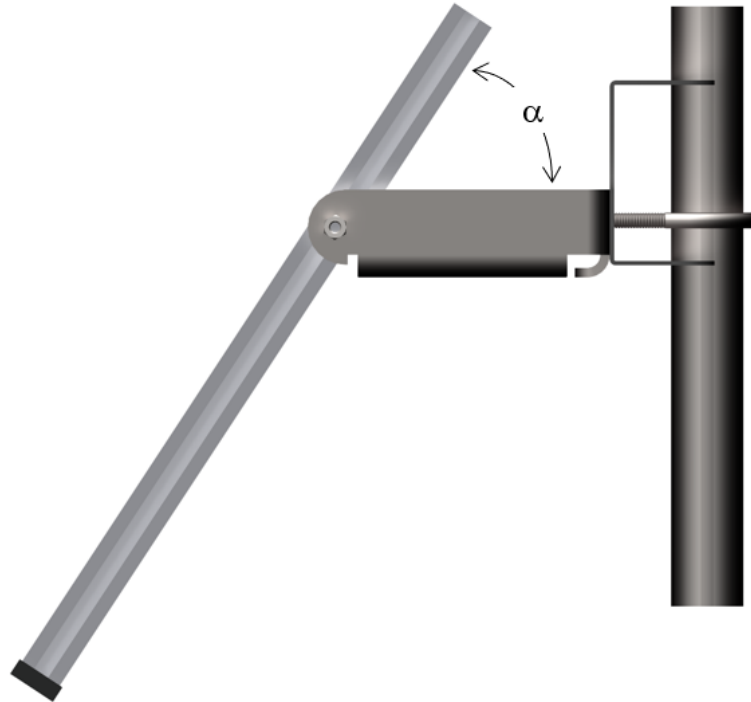

FIGURE 6-43. Side view of solar panel shows tilt angle
2. Mount the solar panel to the pole so it faces south (northern hemisphere). Position it as high off the ground as practical, ensuring it cannot interfere with air flow or sunlight around the sensors. The solar panel should be oriented to receive maximum insolation over the course of the year. Suggested tilt angles referenced to the horizontal plane (FIGURE 6-43 (p. 61)) are listed in Table 6-1 (p. 60).
5. Secure the wire to the mast using wire ties (FIGURE 6-43 (p. 61)).